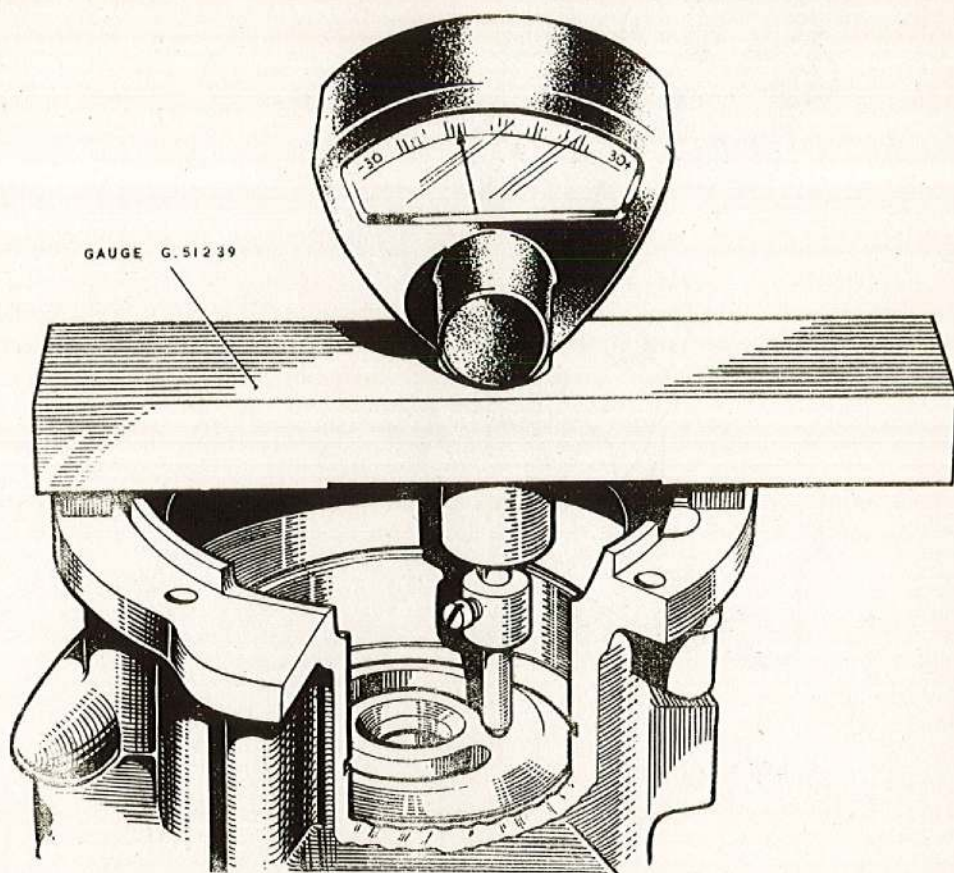

Fig. 17. Checking the parallelism of the port insert
65. To check the parallelism of the insert place it in the pump body, ensure that it is located correctly on the dowels, then place the test bar and indicator G.51239 on the pump housing face (fig. 17). Check at several points across the face of the insert. If the reading obtained is outside the stated figure, remove the test bar and the port insert, make sure that the face of the insert and its seating in the pump housing, the pump flange and the underside of the test-bar, are all quite clean. Also check the dowels and the dowel holes in the insert and pump body for cleanliness. Replace the insert and test again; if the result is still unsatisfactory remove the insert and check the seating face in the housing for parallelism relative to the pump flange by lowering the gauge in the test-bar. The same limits apply as for the check on the insert. In the case of a new insert the parallelism must be within 0.0000 in. to 0.00012 in. and after service must not exceed 0.0005 in.